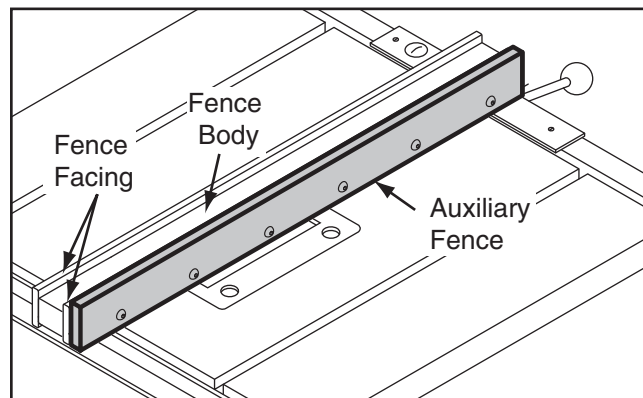

Figure 66. Auxiliary fence.
6. Attach fence face (removed in **Step 2**) and auxiliary fence to fence body with (6) #8 x 2" wood screws. The end result should be similar to **Figure 66**.